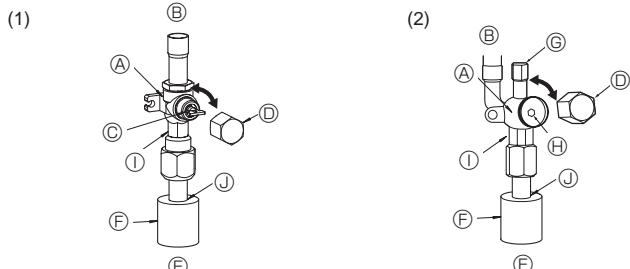

Fig. 4-5
#### (1) Gas side of P71-140 (Fig. 4-5)
- ① Remove the cap, pull the handle toward you and rotate 1/4 turn in a counter-clockwise direction to open.
- ② Make sure that the stop valve is open completely, push in the handle and rotate the cap back to its original position.